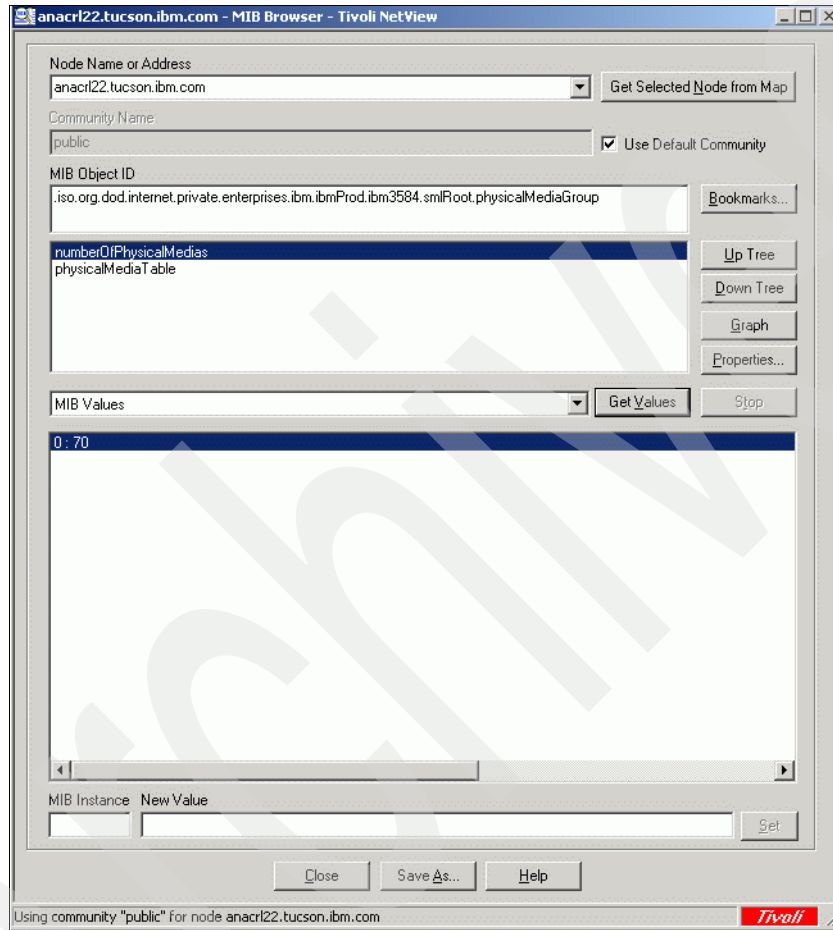

Figure A-23 SNMP Request: Number of all physical cartridges
- To obtain a list of all cartridges in the library, issue an SNMP get request on the object `numberOfPhysicalMedias`. This indicates how many cartridges are present in the library (see Figure A-23).